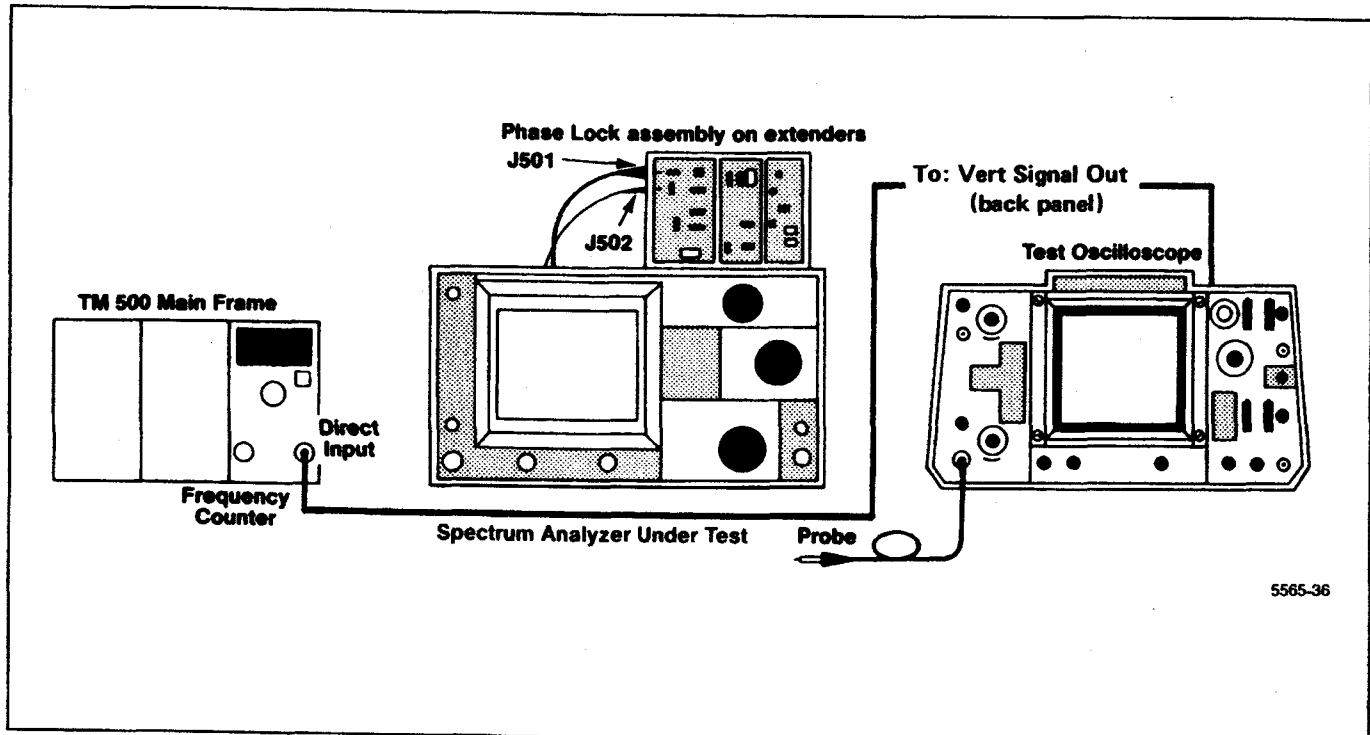

Figure 5-25. Test equipment setup for adjusting the Phase Lock assembly.
a. Test equipment setup is shown in Figure 5-25. Remove the Phase Lock module and the two cover plates so all circuit test points and adjustments are accessible. Plug the assembly on extender boards and into the instrument. Use extender cables and adapters to reconnect signal cables to their respective connector (cable with yellow band to J501, and the cable with black band to J502).